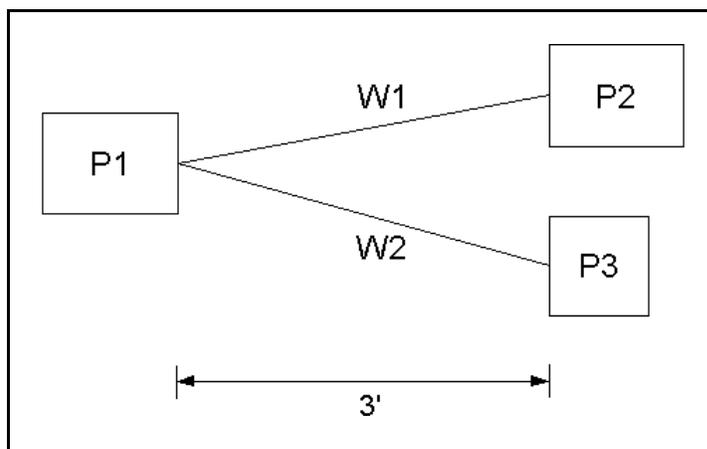

Fig. 1: Cable Assembly
1. Obtain all parts in Table 1 and assemble the cable as shown in Table 2 and Fig. 1.